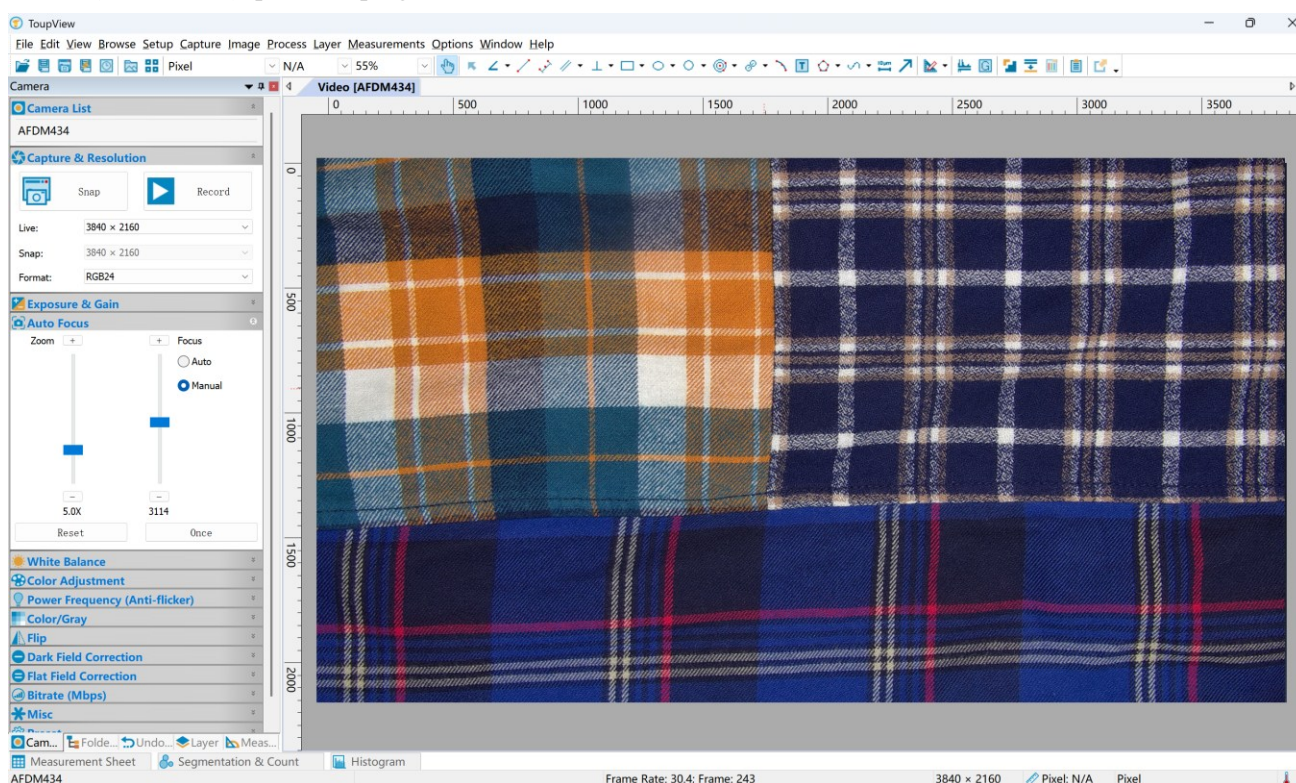

Figure 11 ToupView and AFDM434 Camera in USB Mode
- Install ToupView/ToupLite on your PC or install ToupView App on the mobile device; Run the software ToupView/ToupLite, clicking the camera name in the camera list n to start the live video as shown in Figure 11.
Active **AFDM434** camera is recognized by **ToupView/ToupLite** software or **ToupView App** and they are displayed as a camera list or thumbnail in the software or app as shown in Figure 11.